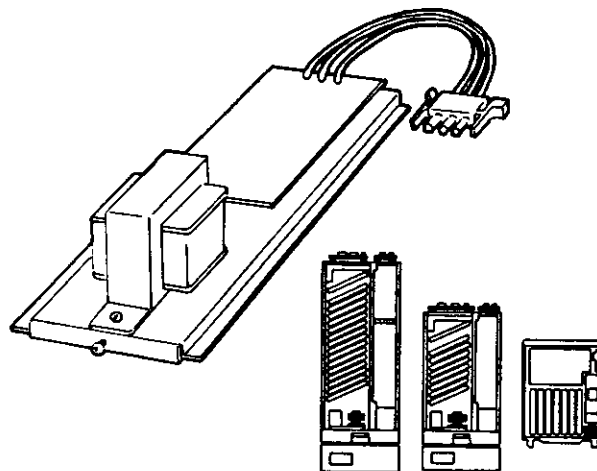

FIGURE 4-28 RINGING GENERATOR FOR SLTs (RNGER)
- c. Figures 4-28 through 4-36 illustrates each optional card or component and details its functions.